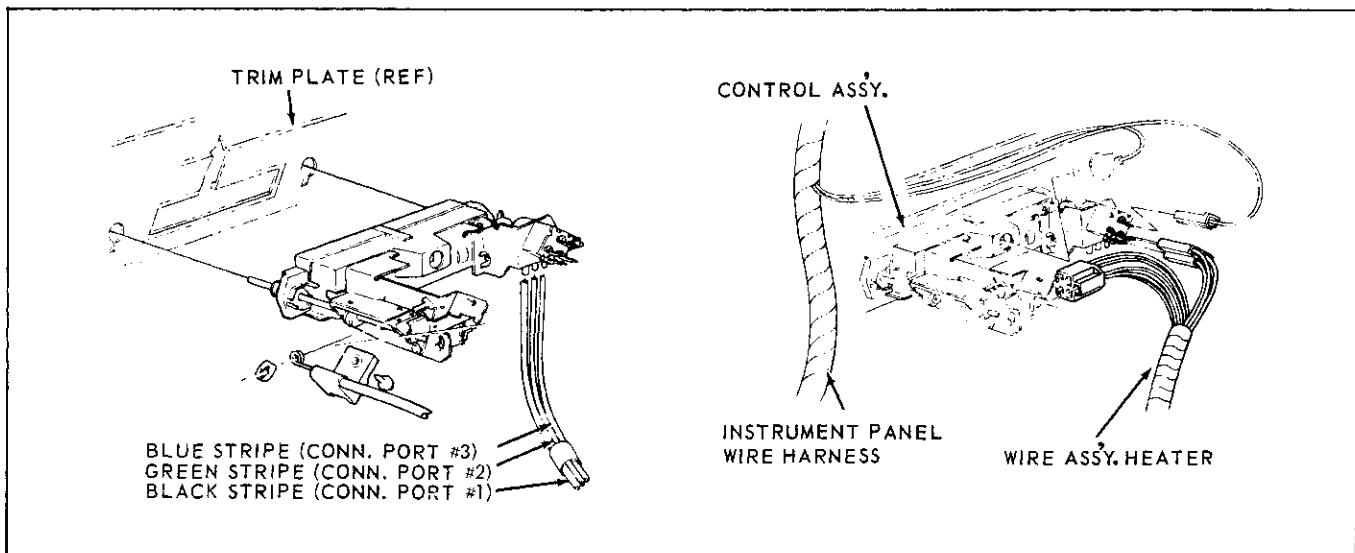

Fig. 1-4 Control Panel Connection—Pontiac
SELECT AND VACUUM VALVE SWITCH REPLACEMENT (Fig. 1-4)
2. Disconnect temperature control cable at the heater control switch (Fig. 1-4).